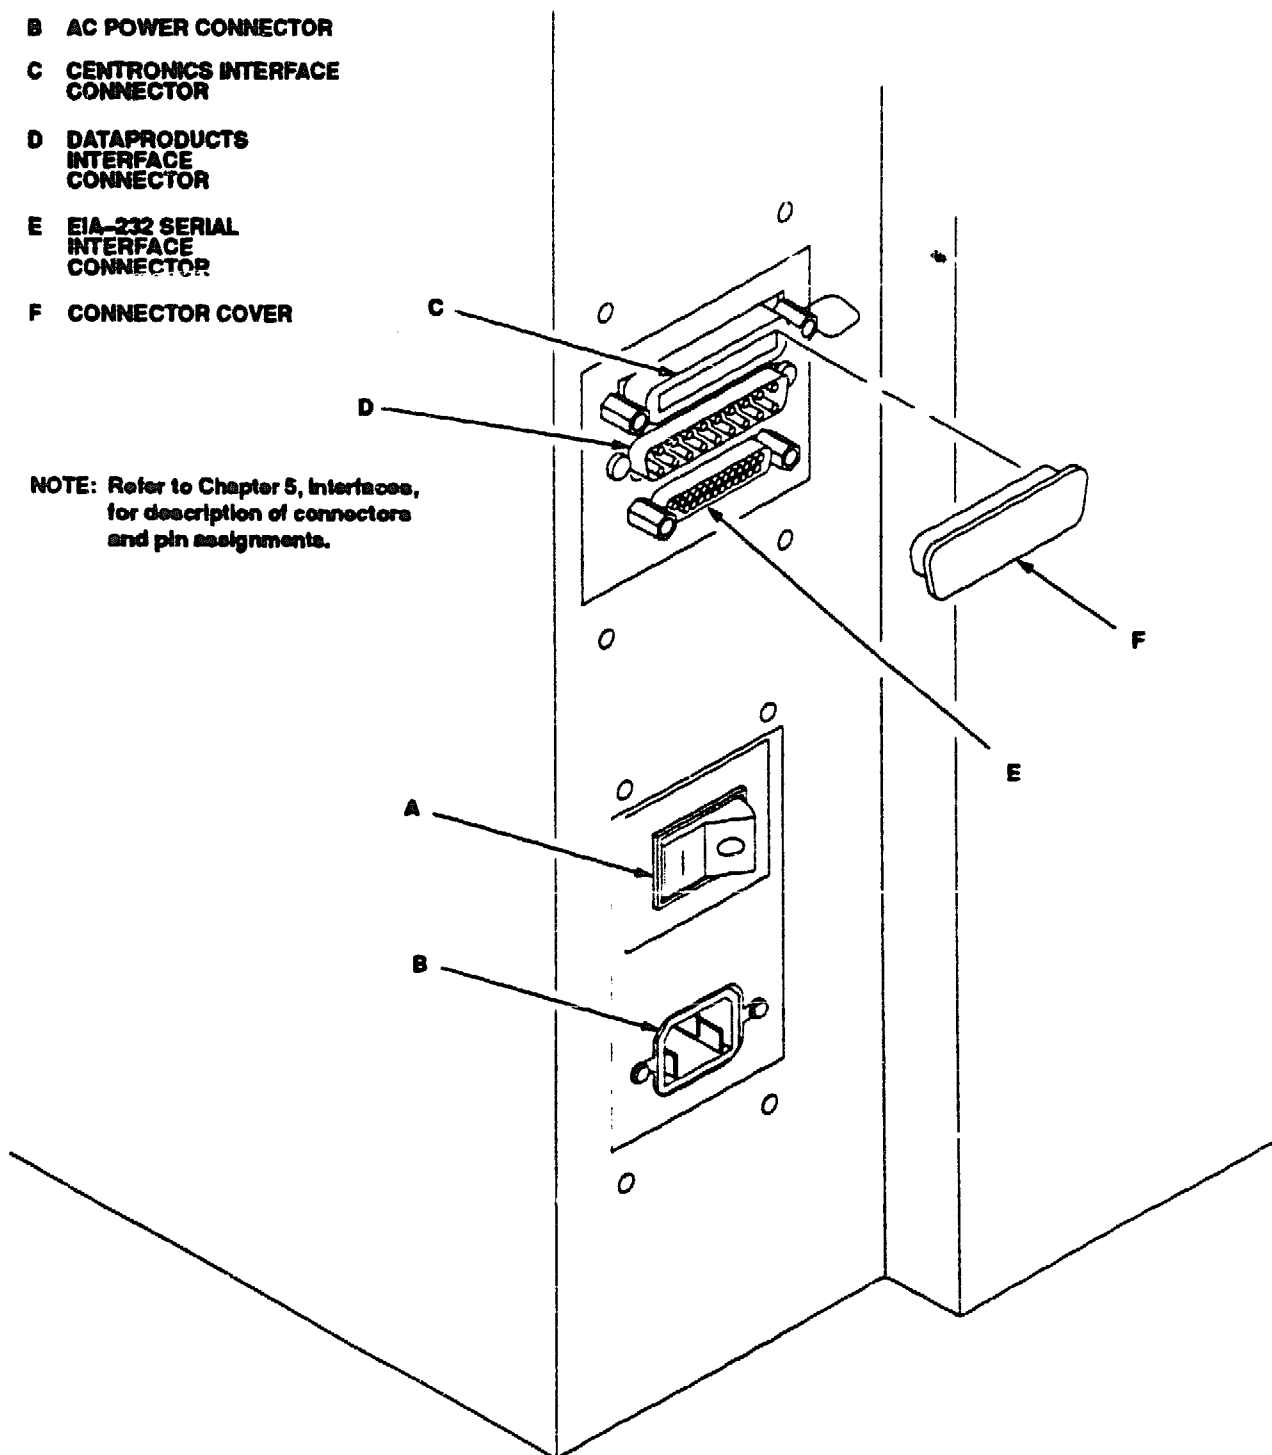

Figure 2-2. Cable Connections
2. Make sure the printer power switch (A) is set to O (off). (See Figure 2-2.)
3. Connect the power cord to the printer's ac power connector (B) and to the ac line receptacle.